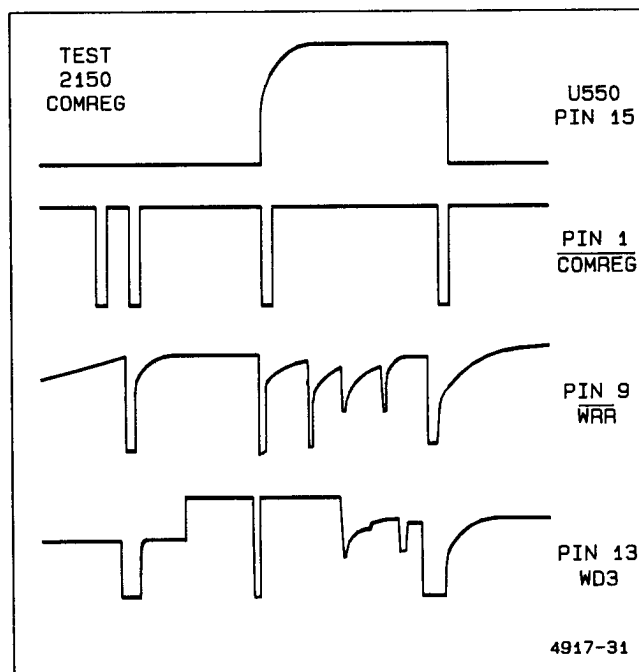

Figure 6-8. Typical Register test waveforms.
2. Run test 2150 in CONTINUOUS mode and check that U550 pin 1 ( $\overline{\text{COMREG}}$ ) is set LO during the period that the clock line ( $\overline{\text{WWR}}$ ) to U550 at pin 9 has a LO-to-HI transition. This may be done by saving the  $\overline{\text{COMREG}}$  signal in REF1 and displaying it at the same time as the clock pulse on U550 pin 9 is acquired. If these signals are not coincident, then troubleshoot the cause and correct the problem. See Figure 6-8 for typical register test waveforms.